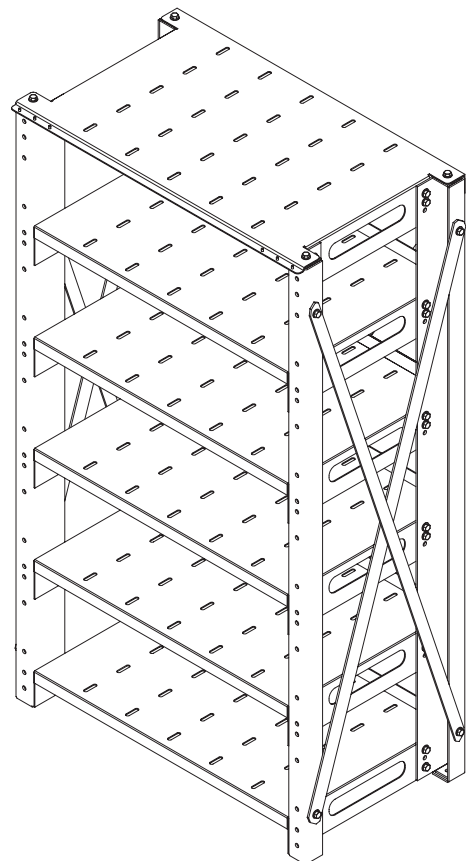

Figure 7.6b - Front view of rack
- For seismic racks, install the side cross braces per Figure 7.6b.